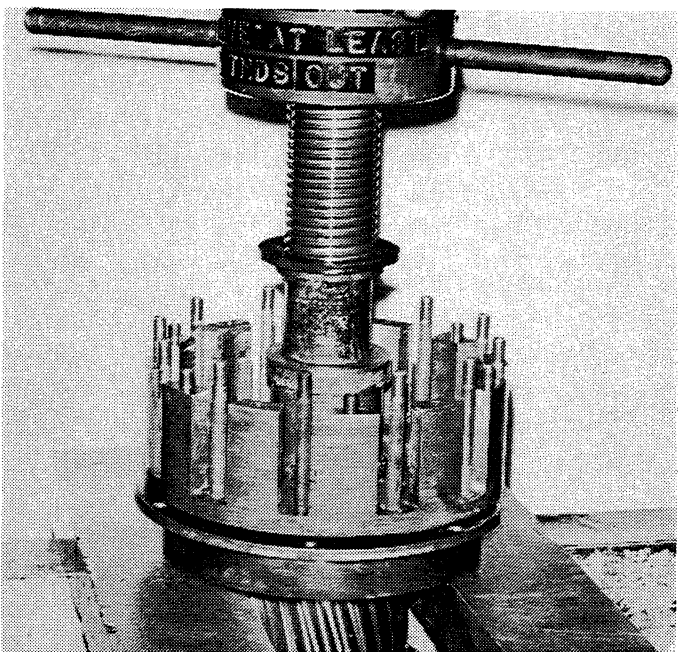

Figure 6-41. Pressing Input Pinion from Drive Spider Assembly.
6. Press the input pinion out of the drive spider assembly (Figure 12-2, 4). See Figure 6-41.